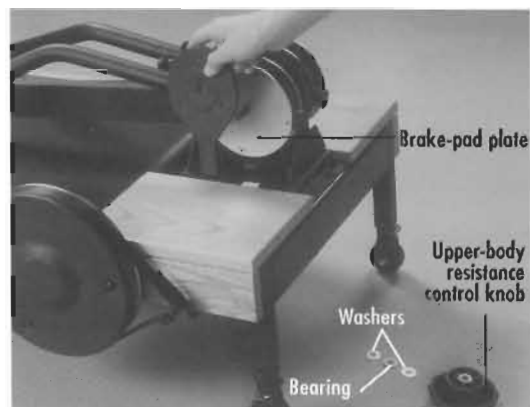

Figure 2
4. Slide the right brake-pad plate (and the attached brake pad) off the large bolt (Figure 2).